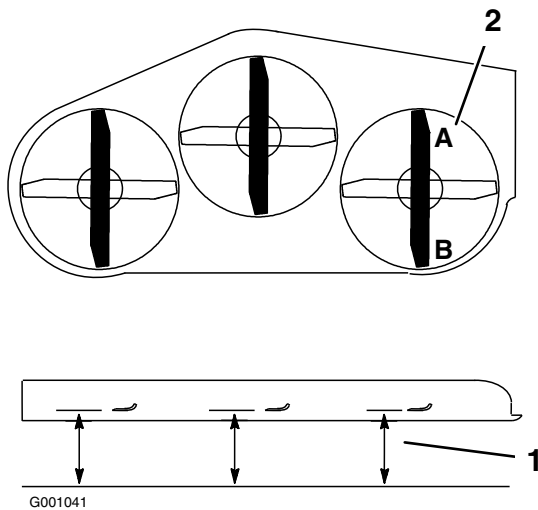
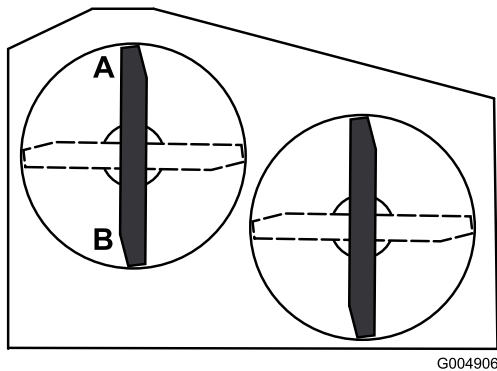

Figure 68
Figure 69
2. Position one blade front-to-rear. Measure at **A** and **B** locations from a level surface to the cutting edge of the blade tips (Figure 68 or Figure 69). For 36 inch mower decks use Figure 69.
4. Position the blades front-to-rear. Measure at **C** and **D** locations (Figure 68) from a level surface to the cutting edge of the blades.